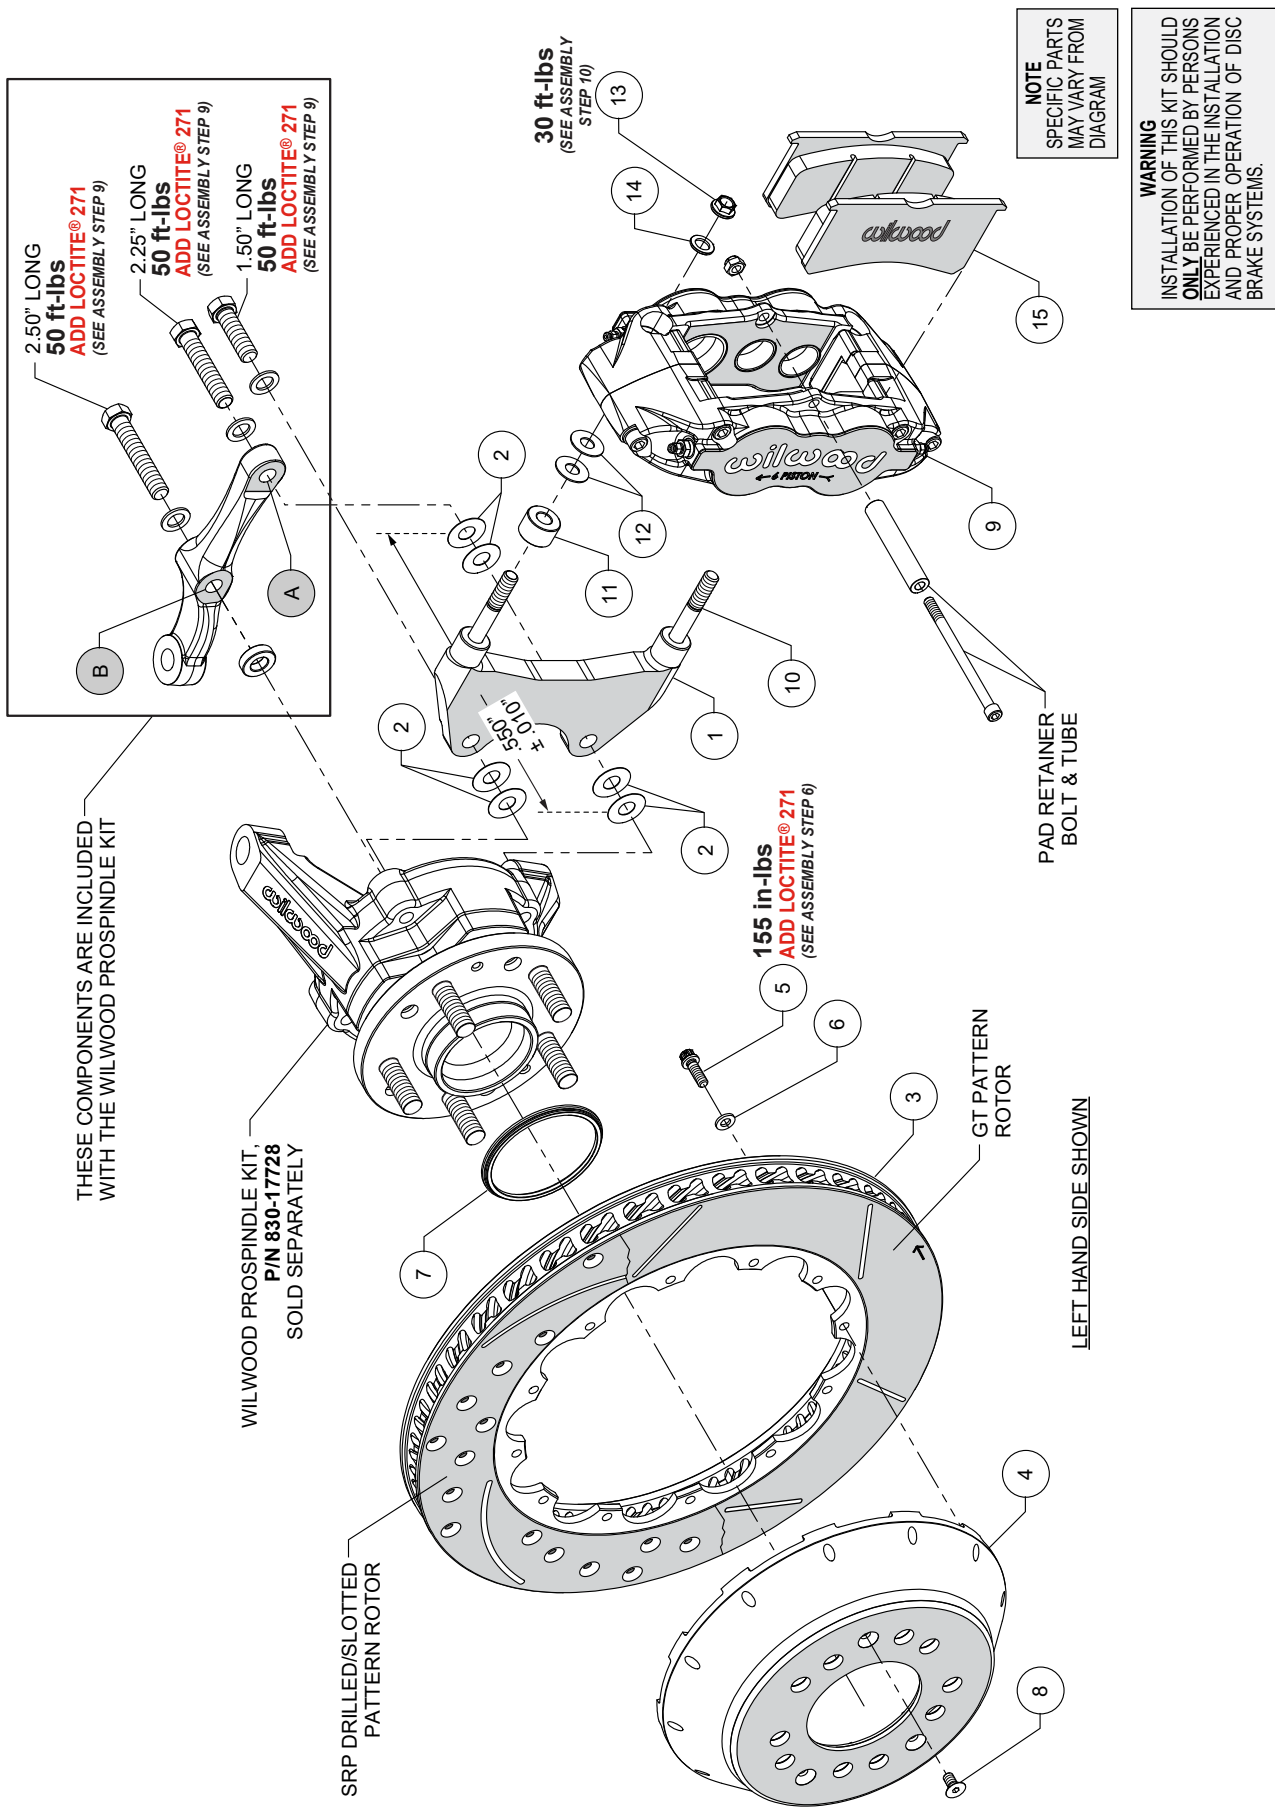
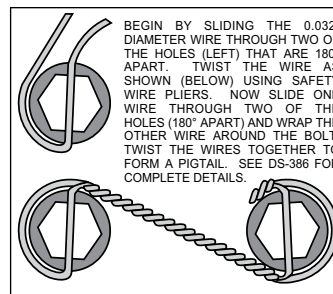

Figure 1. Typical Installation Configuration
Figure 3. Safety Wire Diagram
- NOTE:** This brake kit fits Wilwood's 2" drop ProSpindle (P/N 830-17728). Some hardware shown in Figure 1 is included with the ProSpindle kit (sold separately).
NOTE: Numbers in parenthesis refer to the parts list and Figure 1 on the preceding pages.
NOTE: Each Wilwood ProSpindle kit (sold separately) includes bolts, washers, and a spacer to mount the steering arm and caliper bracket. The various bolts are identified by length in the following instructions and in Figure 1.
STEP 1 The caliper bracket (1) should initially be installed with clean, dry threads on the mounting bolts. Orient the bracket as shown in Figure 1 and Photo 1.
STEP 2 Install the bracket (1) at top spindle hole using 1.50" long bolt and .063" thick washer (from ProSpindle kit), and two .016" thick shims (2) between the bracket and spindle, Figure 1 and Photo 2
STEP 3 Orient the steering arm, and identify the hole marked 'A', as shown in Figure 1 and Photo 2. Install at bottom spindle hole using 2.25" long bolt and .063" thick washer (from ProSpindle kit), two .016" thick shims (2) between the bracket and steering arm, and
another two .016 thick shims (2) between the bracket and spindle, Figure 1 and Photo 2. The bracket is located between the steering arm and spindle. **NOTE:** The bracket and shim washers must add up to a total thickness of .550" ± .010".
STEP 4 Finish attaching the steering arm through the hole marked 'B', as shown in Figure 1 and Photo 2. Install using 2.50" long bolt, .063" thick washer, and .250" thick spacer (all from ProSpindle kit), Figure 1 and Photo 2.
STEP 6 Orient the rotor (3) and the hat (4) as shown in Figure 1, and Photo 3. Attach rotor to hat using bolts (5) and washers (6). Apply red Loctite® 271 to the bolt threads and torque to value shown in Figure 1 using a criss-cross pattern. For an added measure of security, the bolts may be safety wired using standard 0.032 inch diameter stainless steel safety wire as shown in Figure 3. Refer to Wilwood's data sheet DS-386 (available at www.wilwood.com/Pdf/DataSheets/ds386.pdf) for complete safety wire installation instructions.
STEP 7 Install the rotor registration adapter (7) onto the register of the hub assembly with the smaller O.D. facing outward, Photo 4. Slide the rotor/hat assembly (3/4) onto the hub, taking care to align the small countersunk holes in the hat with the small threaded holes in the hub, Figure 1. **NOTE:** The hat must fit flush against the hub face or excessive rotor run out may result. Install rotor locator screws (8) to keep the rotor/hat assembly in place while continuing with the installation, Photo 5.
STEP 8 **NOTE:** This kit contains distinct right and left hand calipers that must be mounted in a specific direction, as described below. Initially place one spacer (11) and two .035" thick shims (12) on each stud (10) as shown in Figure 1 and Photo 6. Mount the caliper (9) onto the bracket (1) using lock nuts (13) and washers (14), Figure 1. Ensure that the caliper is mounted so that the largest pistons are at the rotor exit end of the caliper, in relation to the direction of forward rotor rotation. Temporarily tighten the lock nuts and view the rotor through the top opening of the caliper. The rotor should be centered in the caliper, Photo 7. If not, proceed as follows:
- Adjust by adding or subtracting shims (2) between the **bracket and the spindle**. Always use the same amount of shims on each of the two bolts **between bracket and spindle**.
- For the lower bracket mount bolt, if a shim (2) was added between the **bracket and spindle**, then a shim must be removed between the **steering arm and bracket**, such that the total thickness of bracket and shims remain equal to .550" ± .010".
STEP 9 Once the caliper alignment is correct, remove the ProSpindle supplied bolts one at a time, apply red *Loctite*® 271 to the threads, and torque to value shown in Figure 1.
STEP 10 Remove the caliper pad retainer bolt, lock nut, and tube from the caliper. Insert the brake pads (15) into the caliper, with the friction material facing the rotor, as shown in Photo 8. Check that the top of the brake pad is flush with the outside diameter of the rotor, Photo 9. If not, adjust by adding or subtracting shims (12) between the caliper and the spacer (11). After the caliper pad height is set, reinstall the pad retainer tube, bolt, and lock nut, Photo 10. The pad retainer lock nut should be snug without play in the bolt or tube. Be cautious not to over tighten. Torque the caliper lock nuts (13) to value shown in Figure 1.